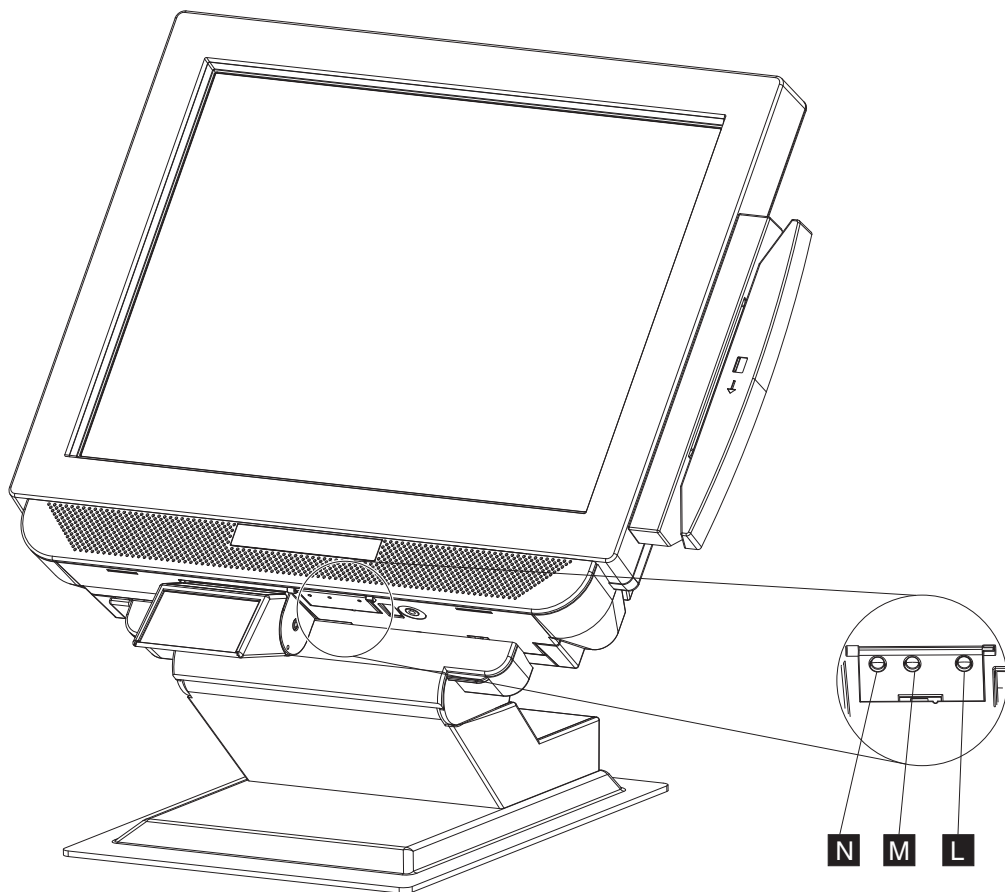

Figure 14. IBM 4838 controls
2. Three small holes (see **L**, **M**, and **N** in Figure 14 on page 20 for the approximate location) in the control button cover provide access for you to actuate the control buttons. Use a paper clip or other small tool to actuate the button.
3. Power on the IBM 4838 using the power button (**L** in Figure 14). The 4838 power indicator light will initially appear green.
4. To adjust the LCD brightness, select the plus + or minus - keys (see **M** and **N** in Figure 14).